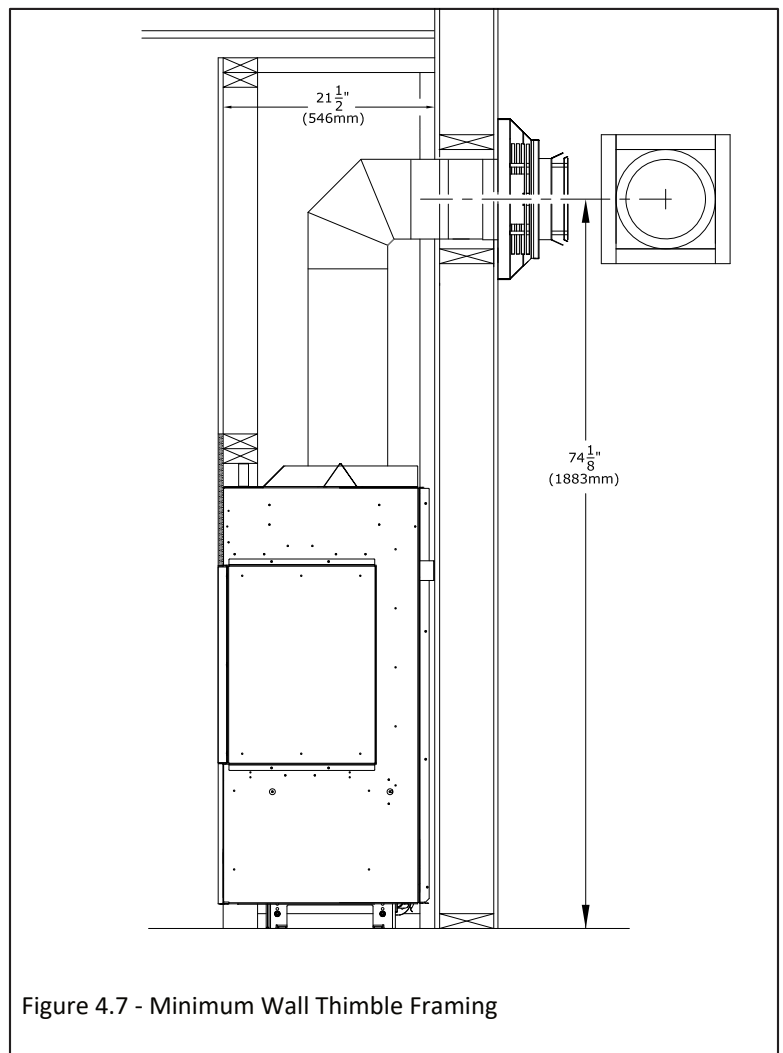

Figure 4.7 - Minimum Wall Thimble Framing
- See Figure 4.7, Non-Combustible Finishing Zone for the minimum requirement of noncombustible finishing material.
- Follow Figure 4.7 below for minimum rough-in dimensions.
1. Measure from floor level of the fireplace to the center of where the vent pipe will penetrate the wall. The dimension in Figure 4.7 is used with a Simpson DuraVent pipe.